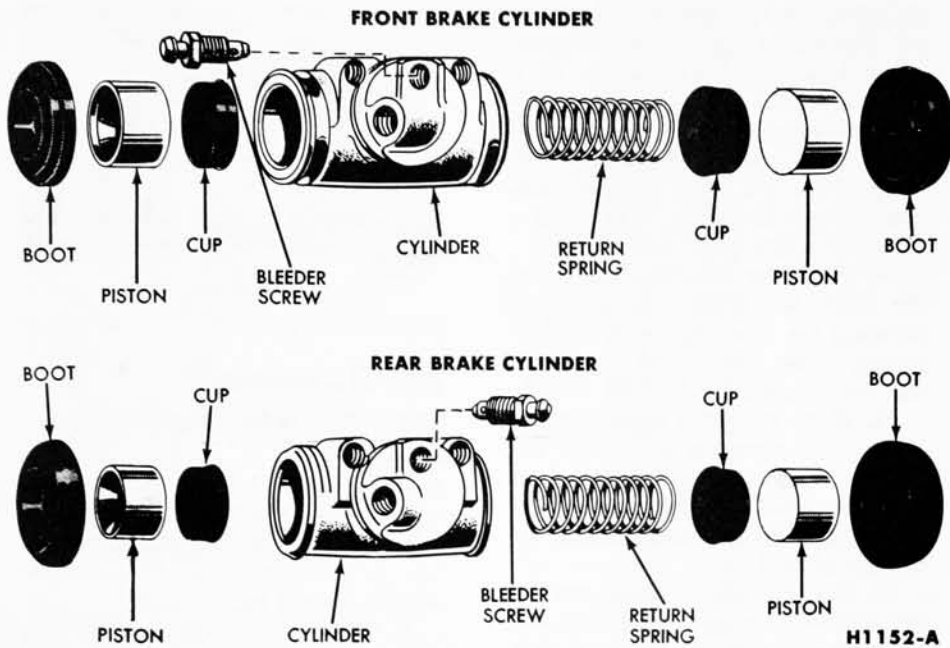

FIG. 12—Front and Rear Brake Wheel Cylinders
1. Remove the links and the rubber boots from the ends of the brake cylinder. Remove the pistons, cups, and return spring from the cylinder bore (Fig. 12).
3. Insert the return spring, cups, and pistons into their respective positions in the cylinder bore (Fig. 12). Place a boot over each end of the cylinder.